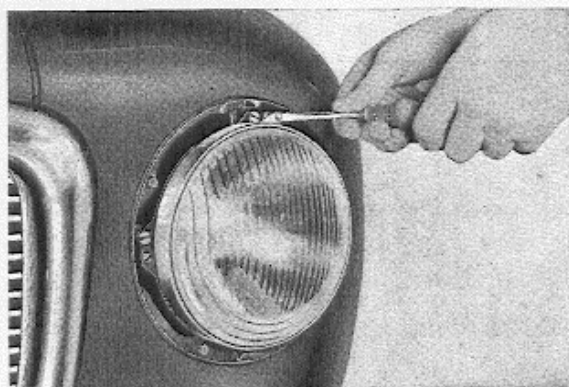

Fig. 12. Removing retainer ring.
2. Unscrew the screws for the retaining ring for the headlight insert a few turns, Fig. 12. Turn the retainer until the hooks are free from the screws and lift out the insert.